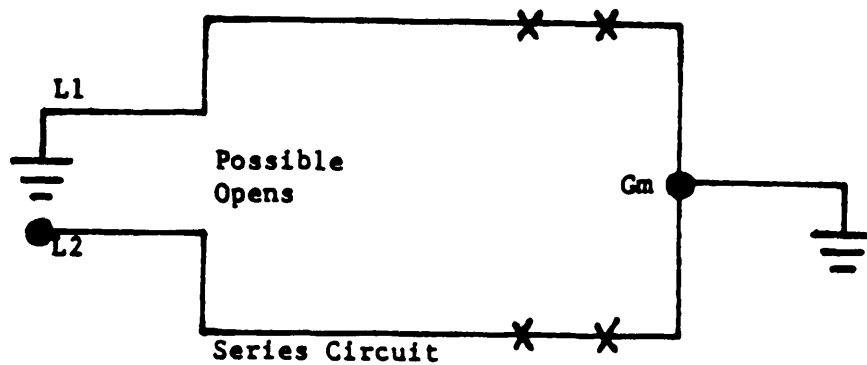

Figure 3-3. Multiple Open Circuits, Test Example.
1. Disconnect the series loopwires from the regulator or circuit-selector switch output terminals. Call these wires L1 and L2. (See figure 3-3.)